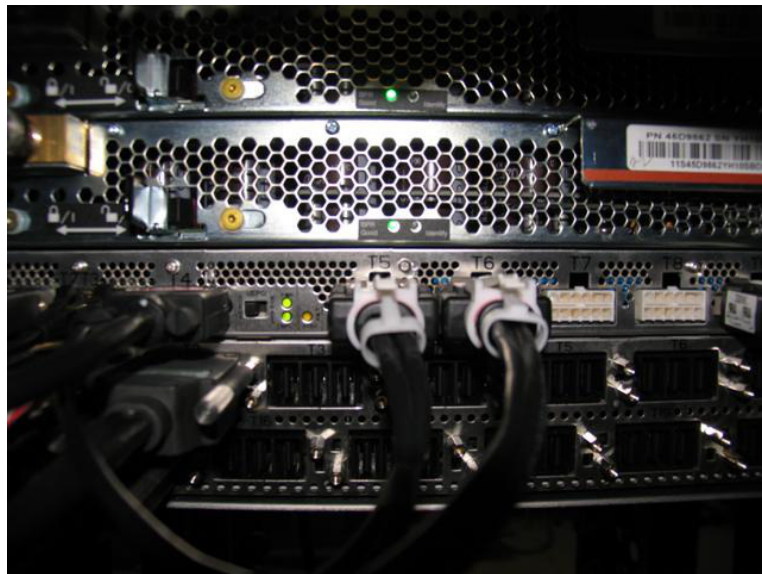

Figure 11 BPCH end of WCU MDA Power Cable
- STEP 13 Unplug the WCU MDA Power Cable from the BPCH by sliding the white Locking Wedge away from the cable connector, depressing the connector latch, and unplugging the cable connector (see Figure 11, Figure 12 and Figure 13)
STEP 18 Connect the replacement WCU MDA Power Cable to the BPCH at the correct location. Plug the cable connector, seat/engage the connector latch, and install the white Locking Wedge (see Figure 11 and Figure 12).